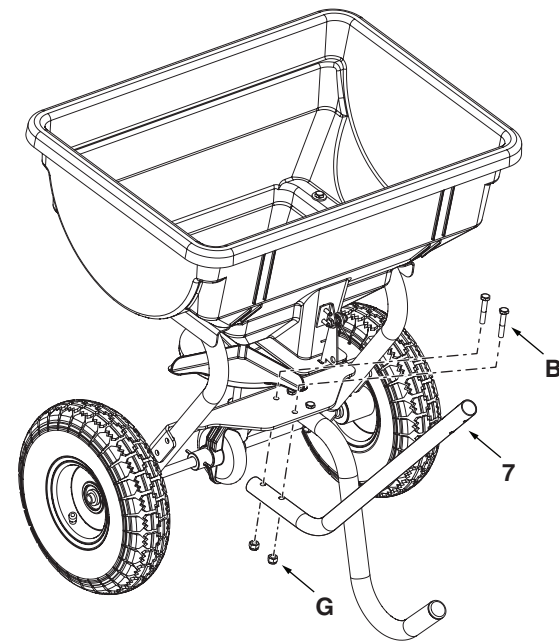

Figure 10
STEP 10: (SEE FIGURE 10)
- Attach the lower handle tube (7) to the frame using two 1/4 x 1-1/2" hex bolts (B) and 1/4" nylock nuts (G). Tighten hardware.